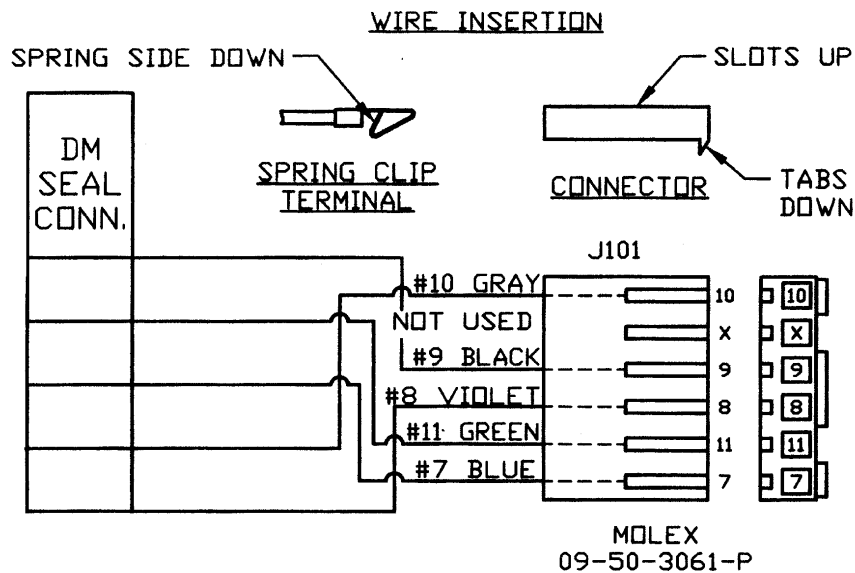

Figure 1
- With the power off, remove the white Molex connector from the IntelliSense. Using a meter on the ohms range, record the resistance of the secondary windings of the transformer (white Molex connector). See *Figure 1, Photo 5*. Compare the measured resistance values to those listed in *Table 1*.